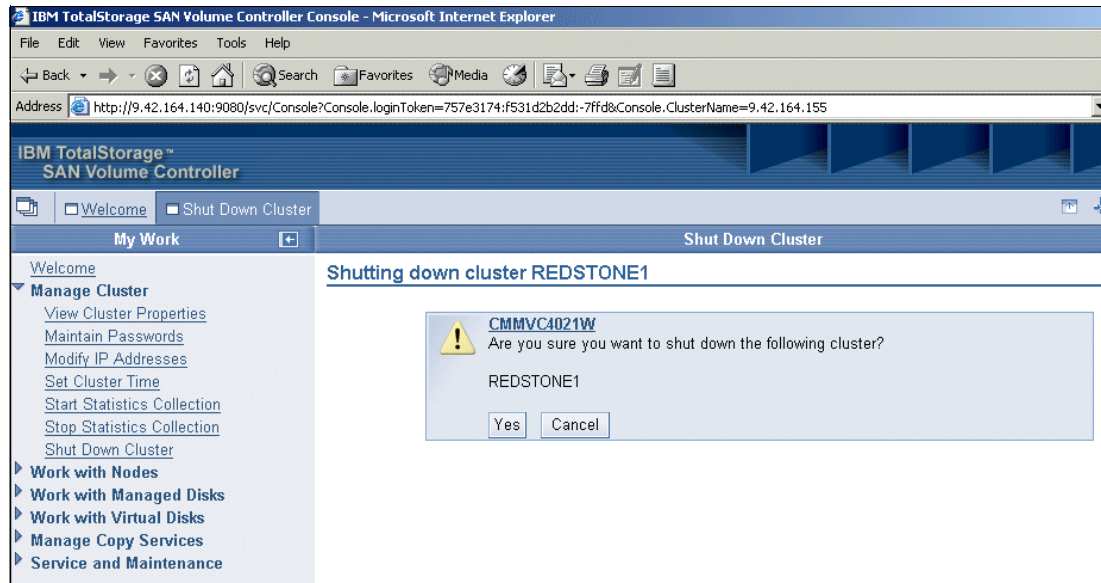

Figure 9-17 Shutting down the cluster
2. The Shutting down cluster panel (Figure 9-17) opens. You see a message asking you to confirm whether you want to shut down the cluster. Click **Yes** to begin the shutdown process.